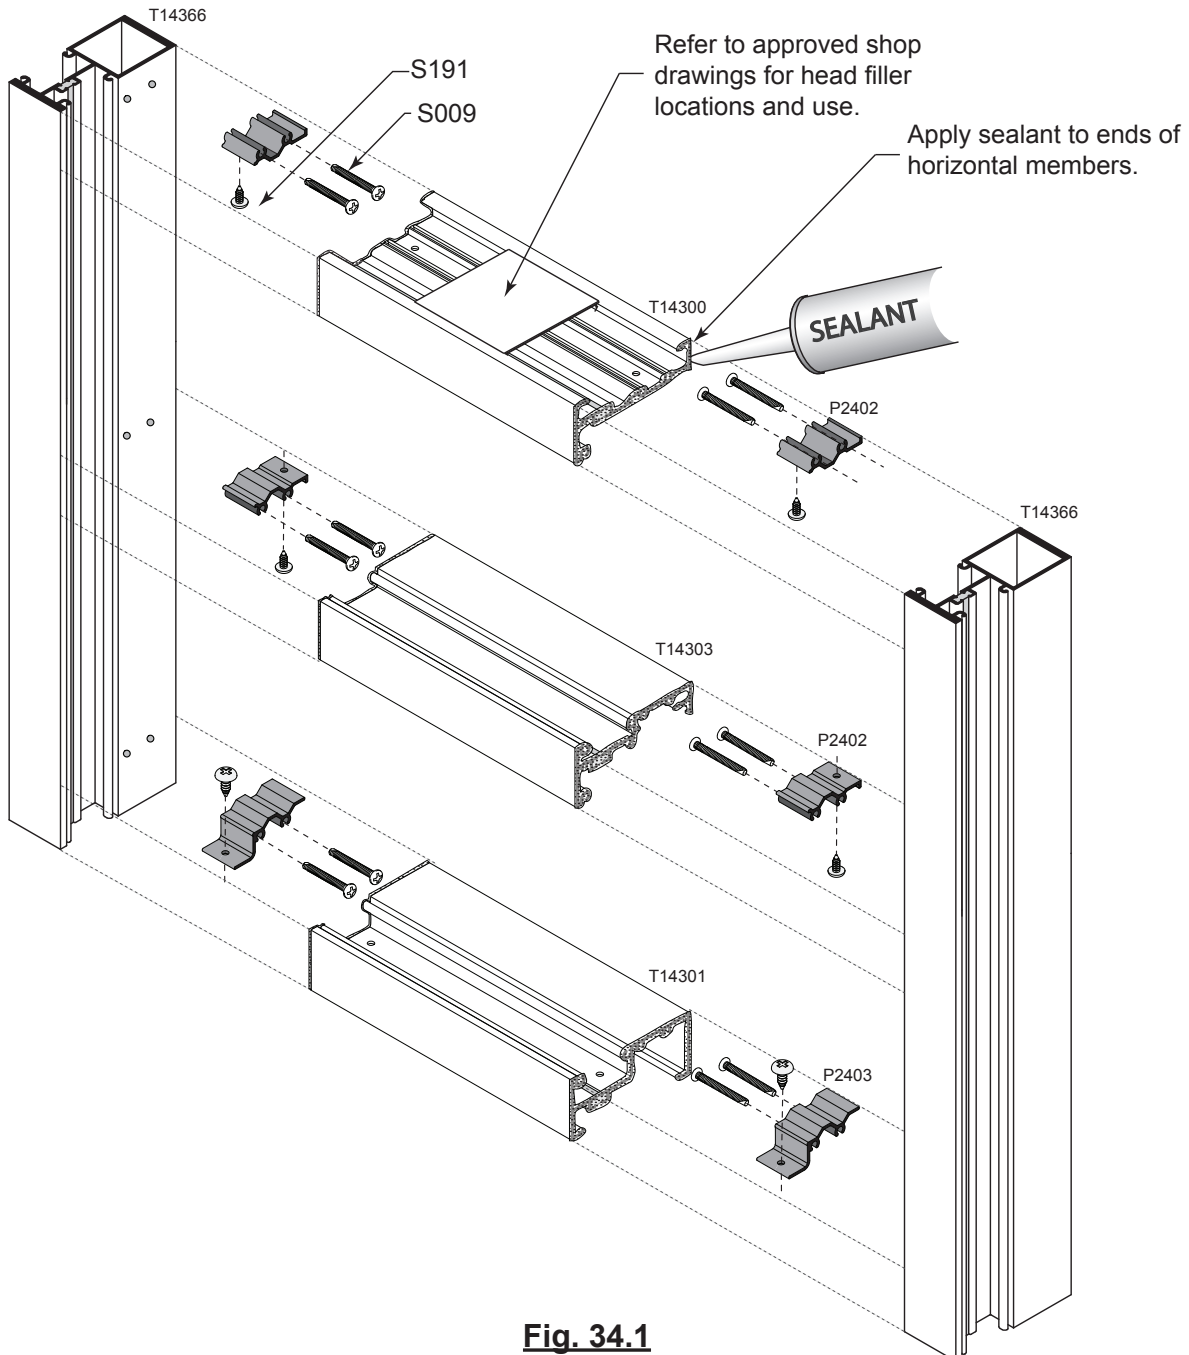

Fig. 34.1
- A. Install shear blocks onto vertical with S009 #10 x 1 3/4" PH screw as shown in **Fig. 34.1**.
- G. Secure head, horizontal, and sill members with (1) S191 #10 x 1/2" truss head screw. See **Fig. 34.1**.